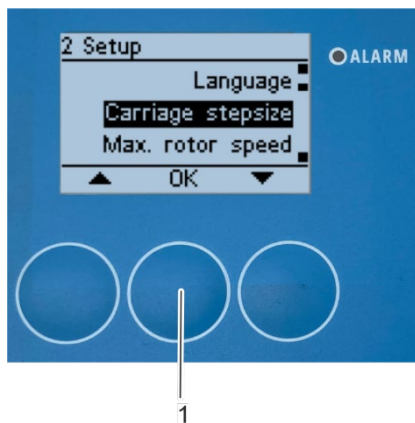

Fig. 127: Open submenu "carriage stepsize"
2. Open the "Carriage stepsize" submenu with [OK] (Fig. 127/1).